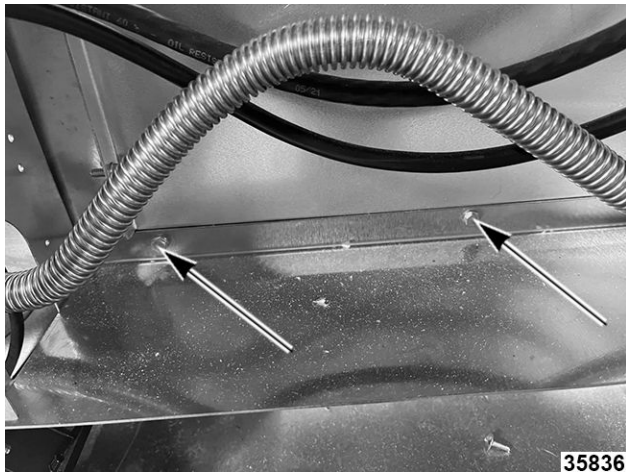

Fig. 26
5. Remove two fan conduit plate mounting screws (Fig. 26).